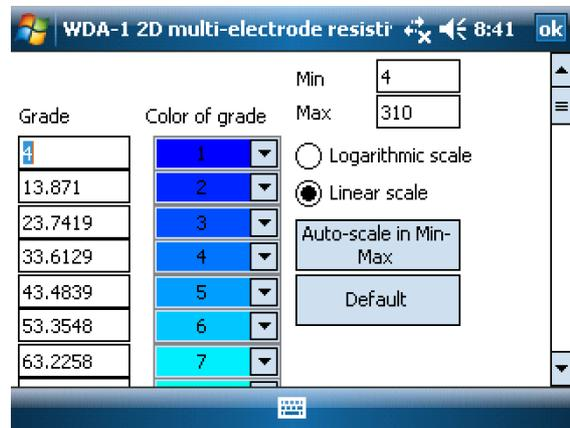

Fig. 6-8
**Section color:** see Fig. 6-8, “Auto-scale in Min-Max” button is to set color automatically according to values chosen in “Max” and “Min” pull-down boxes; “Default” button is to set color automatically according to maximum and minimum resistivity of current profile. User can also choose “Logarithm scale” and “Linearity scale” of the defined color.